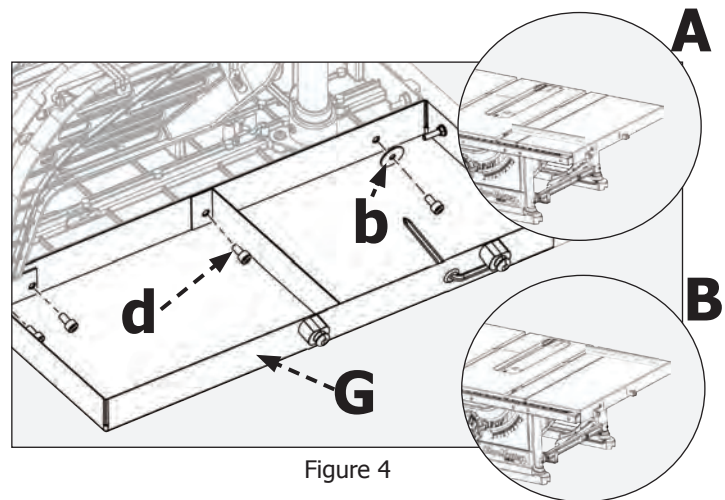

Figure 4
Attach extension wing (G) to the table with (3) M5 x 10mm (3/8 in.) hex socket cap screws (d) and (2) M5 flat washers (b) as shown in Fig. 4.